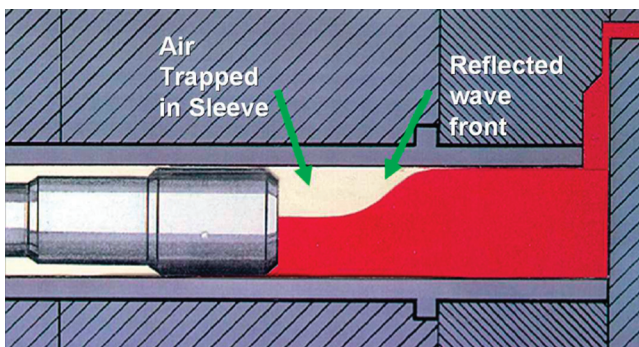

Figure 2 – Performing a slow shot that is too slow creates a reverse wave and trapping air.
- Figure 2 shows that when the slow shot speed is too slow, the wave will not reach the top of the sleeve and thus trap air behind the wave resulting in internal porosity.